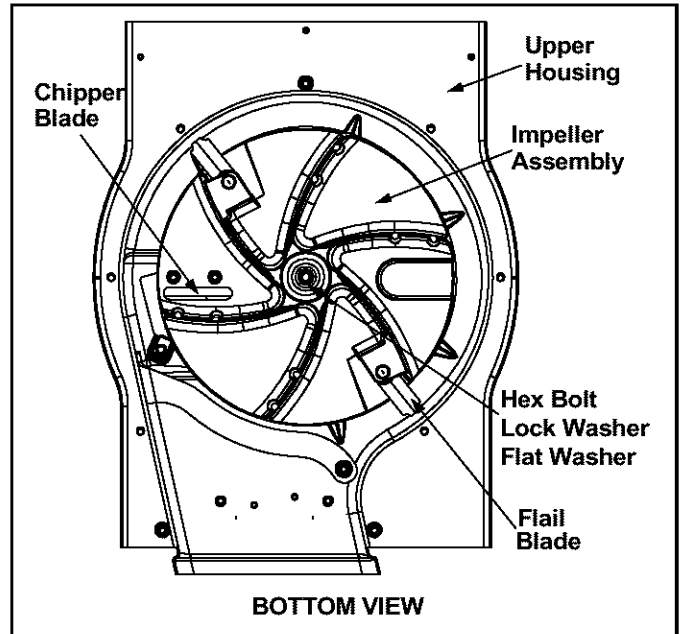

Figure 15
6. Remove the hex bolt, lock washer and flat washer that secure the impeller assembly to the crankshaft. See Figure 15.